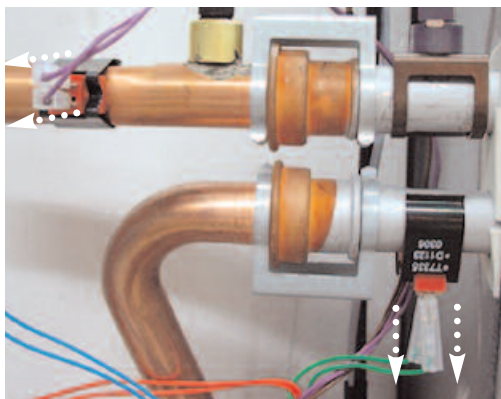

Fig. 18.74
2. Pull off the NTC connections. Then remove the NTC from the pipes by releasing clips (see Fig. 18.74).